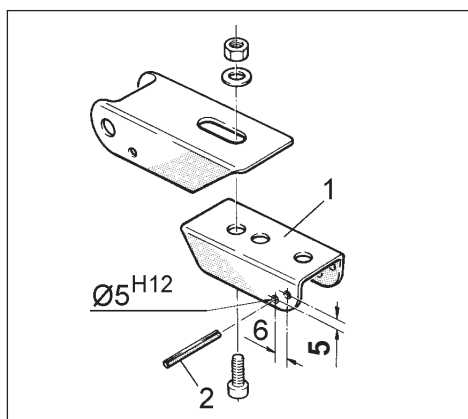

Fig. 26.60
- Remove expansion pin of the retaining ratchet (Fig. 26.60/1)
- Drill a new hole ($\text{Ø } 5^{\text{H}12}$ mm) for the retaining ratchet according to Fig. 26.60.
- Drive new expansion pin 5 x 33, DIN 1481 (Fig. 26.60/2) into the retaining ratchet.